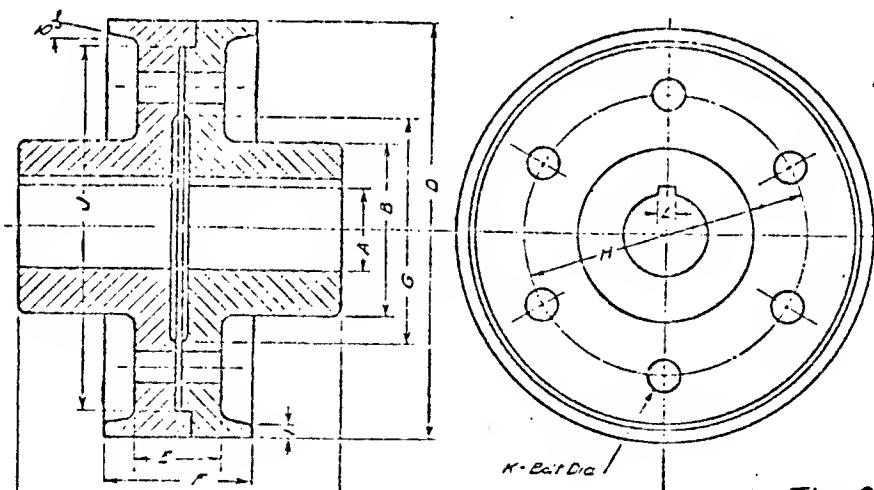

Fig. 2
One of the auxiliary drives for the prototype tracked vehicle mentioned in case (A) (page 1) has an output shaft arranged as in Figure 1. This shaft was case hardened. The detail drawing is shown in Figure 2.